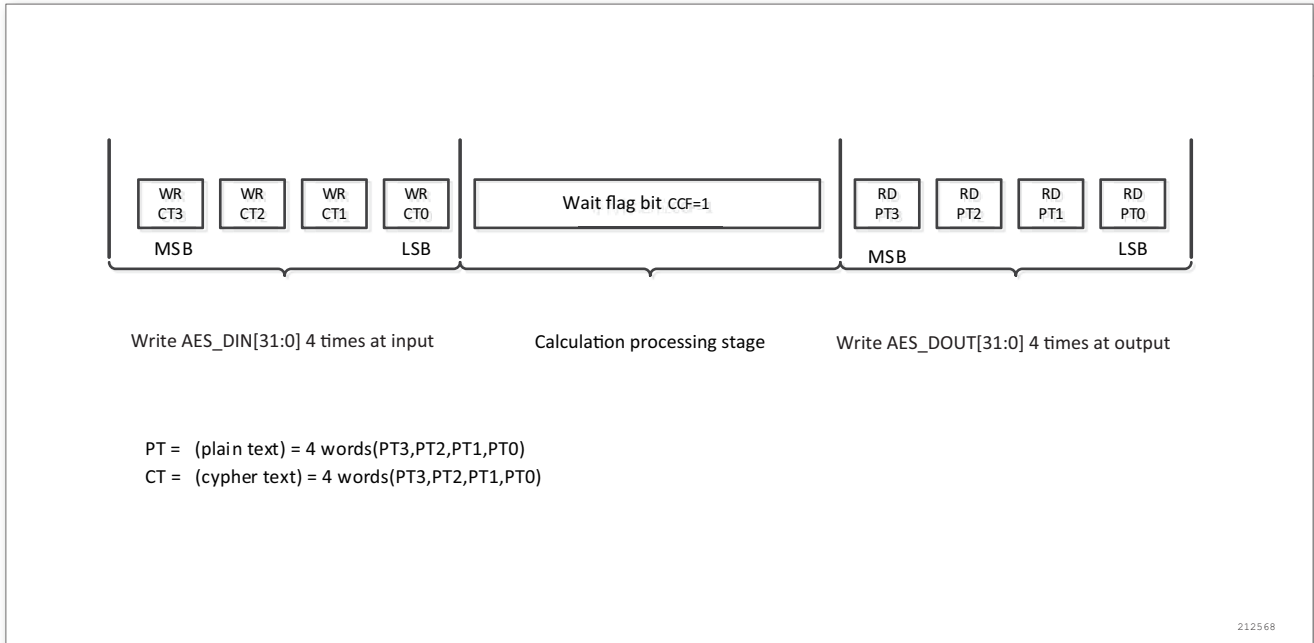

Figure 272. Mode 3: Decryption
6. Write the AES\_DINR register 4 times, to input the ciphertext (MSB first), as shown in Figure 272.
8. Read the AES\_DOUTR register 4 times to fetch plain text (MSB first), as shown in Figure 272.